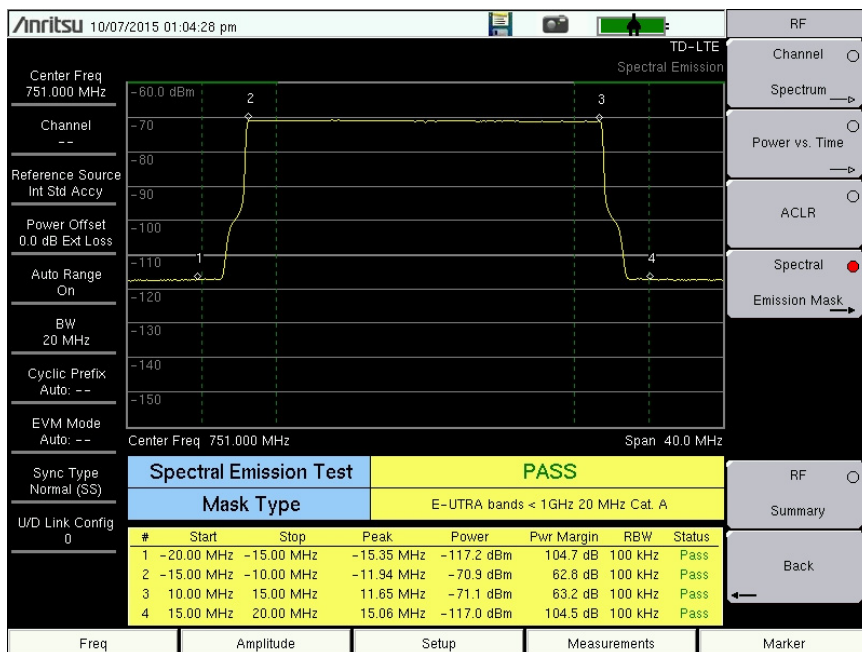

Figure 6-5. Spectral Emission Mask
3. Press the Spectral Emission Mask submenu key to activate the Spectral Emission measurement and display (Figure 6-5).